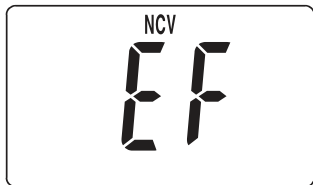

Figure 3
1. Set the rotary switch in NCV position. The display shows "EF" (refer to Figure 3).